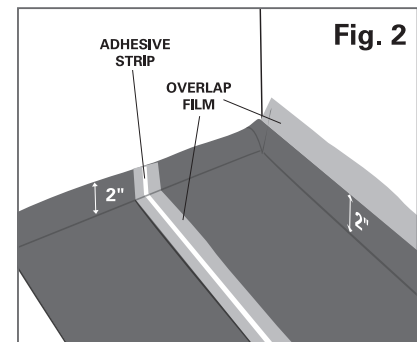

Fig. 2
3. Lay a second row of underlayment alongside the first, (put the edges together but do not overlap them) with the overlap flap facing the first row. The overlap film will lie over the adhesive strip from the first row (see Fig. 2). Allow for the ends to wrap up the end walls to maintain the 2 inch perimeter of underlayment around the room.